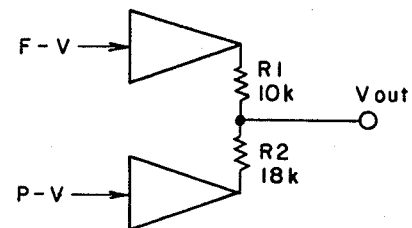

Fig. 10-9 (F-V) + (P-V) Circuit
This reference phase signal which has now been modulated into DC voltage is combined with the rotation speed DC voltage with the F-V modulator (via a buffer amplifier) and is output via pin ⑪ as the motor rotation control signal. It is then sent to the absolute value amplifier via IC PA2008 pin ⑥ (Fig. 10-9).